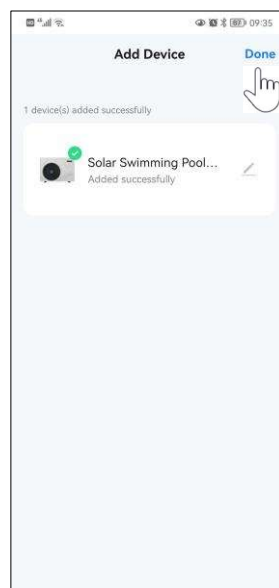

Fig.17 Device added successfully
9. After the network configuration is complete, click <Done> in the upper right corner of the page (Fig.17). The device is added successfully;